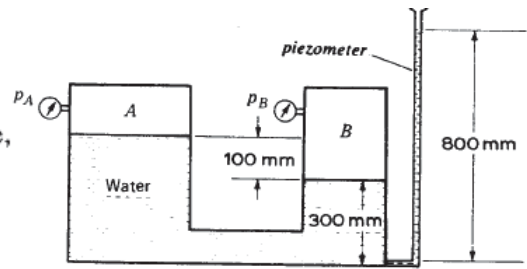

Fig. 2-66
2.94 An open tube is attached to a tank, as shown in Fig. 2-66. If the water rises to a height of 800 mm in the tube, what are the pressures p_A and p_B of the air above the water? Neglect capillary effects in the tube.